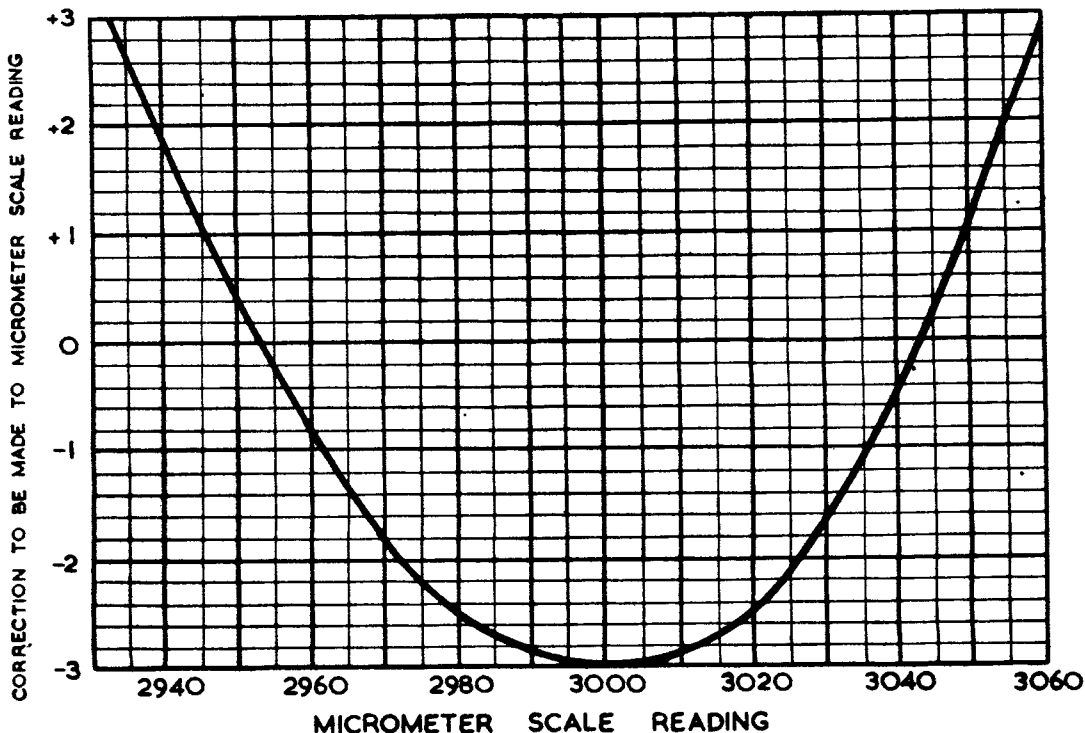

Fig. 2. Test set Type 288 : frequency correction curve
6. Test set Type 288 is a cavity resonator wavemeter in the frequency range 2,940 to 3,060 Mc/s. It has a high "Q" factor of 30,000 to 40,000 and a frequency accuracy of 0.1 per cent. When the calibration curve correction is applied, readings with 0.01 per cent. accuracy are obtained, corresponding to ± 0.3 Mc/s in 3,000. A frequency correction curve, which is shown in fig. 2, is supplied with each instrument.